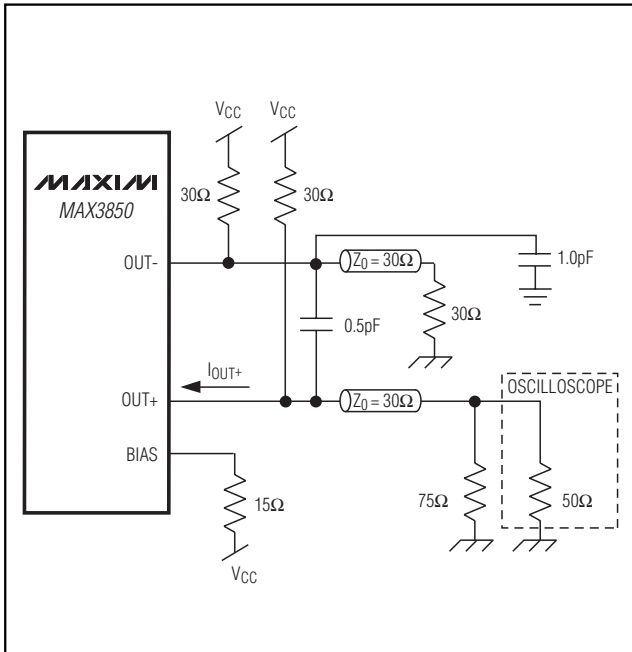

Figure 2. Output Termination for Characterization
**Note 7:** AC characteristics are guaranteed by design and characterization using the characterization circuit of Figure 2.